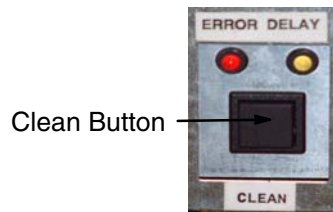

FIGURE 12
2. The clean cycle starts when the CLEAN button is pressed twice (See Figure 12).